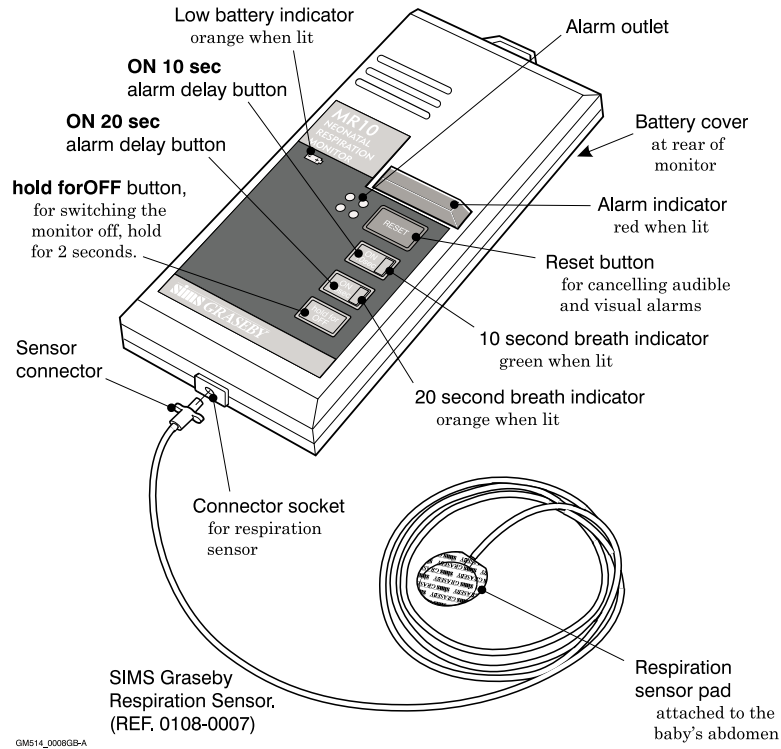

Figure 1-1 MR10 old case design (for serial numbers from 30,000 to 80,000)
- the old case design covers monitors with serial numbers from 30,000 to 80,000 see Figure 1-1.